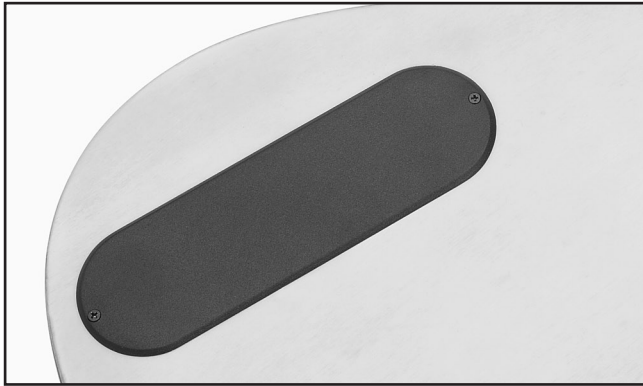

Figure 17. Circuit board cover installed.
1. Place the circuit board cover over the circuit board mortise (**Figure 17**), mark mounting holes, and drill pilot holes using a 1/16" bit.